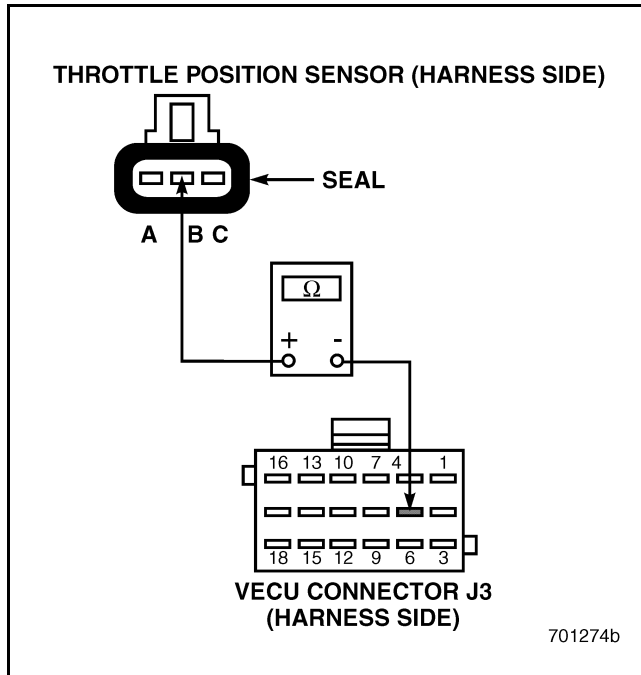

Figure 546
2. Disconnect the Throttle Position (TP) Sensor.
4. Check for continuity between VECU connector J3 pin 5 and TP Sensor harness connector pin B (see Figure 546).